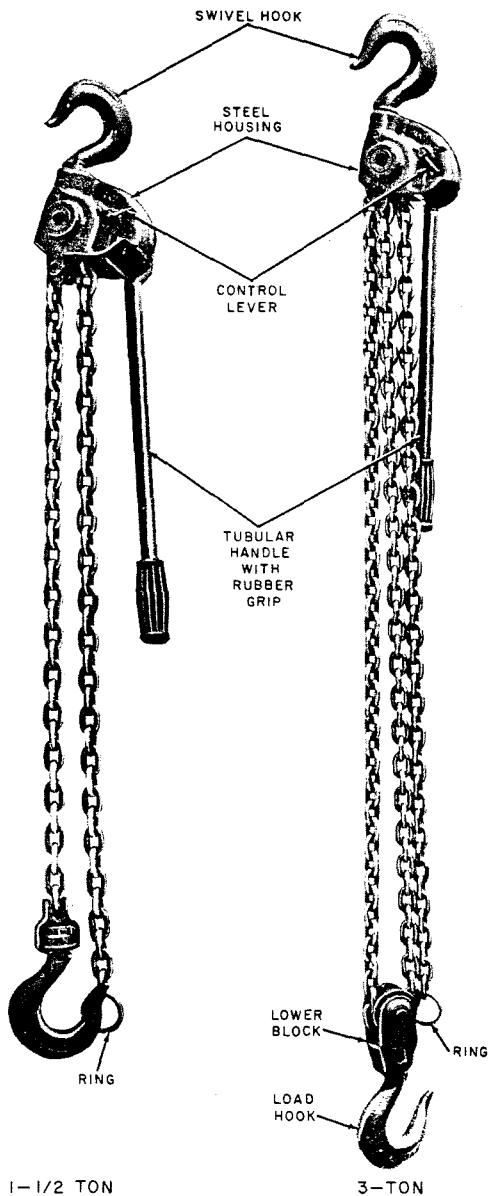

Fig. 1—E Chain Hoist
**1.03** The E Chain Hoist (Fig. 1) is a ratchet and pawl-type hoist which is available in two load capacities, a 1-1/2 ton and a 3 ton. See Table A. The choice of hoist capacity to be used is